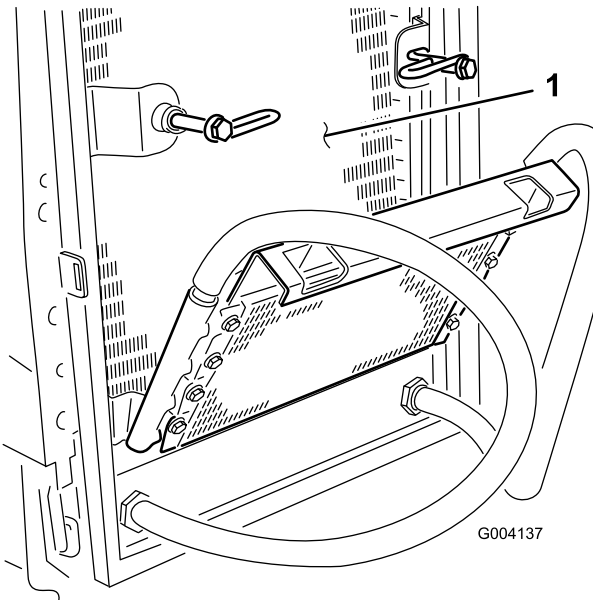

Figure 67
6. Thoroughly clean both sides of the oil cooler and the radiator (Figure 67) with compressed air.